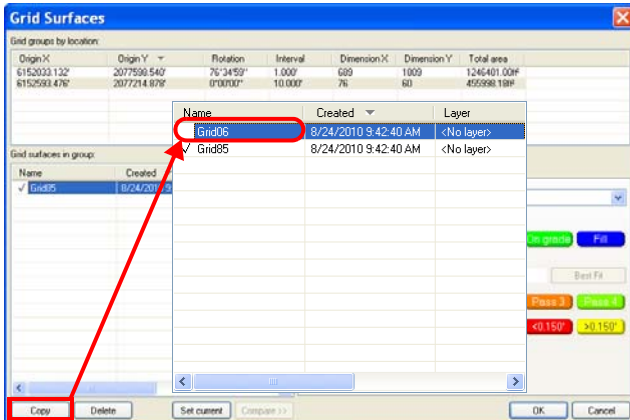

Figure 8-18. Copy and Name Grid Surface
1. On the *Grid surfaces* dialog box, select the grid surface to edit (Figure 8-18 on page 8-14).
1. On the *Grid surfaces* dialog box, select the grid surface to copy and click **Copy** (Figure 8-18 on page 8-14).
2. Type a unique name for the new grid surface and press **Enter** (Figure 8-18 on page 8-14).